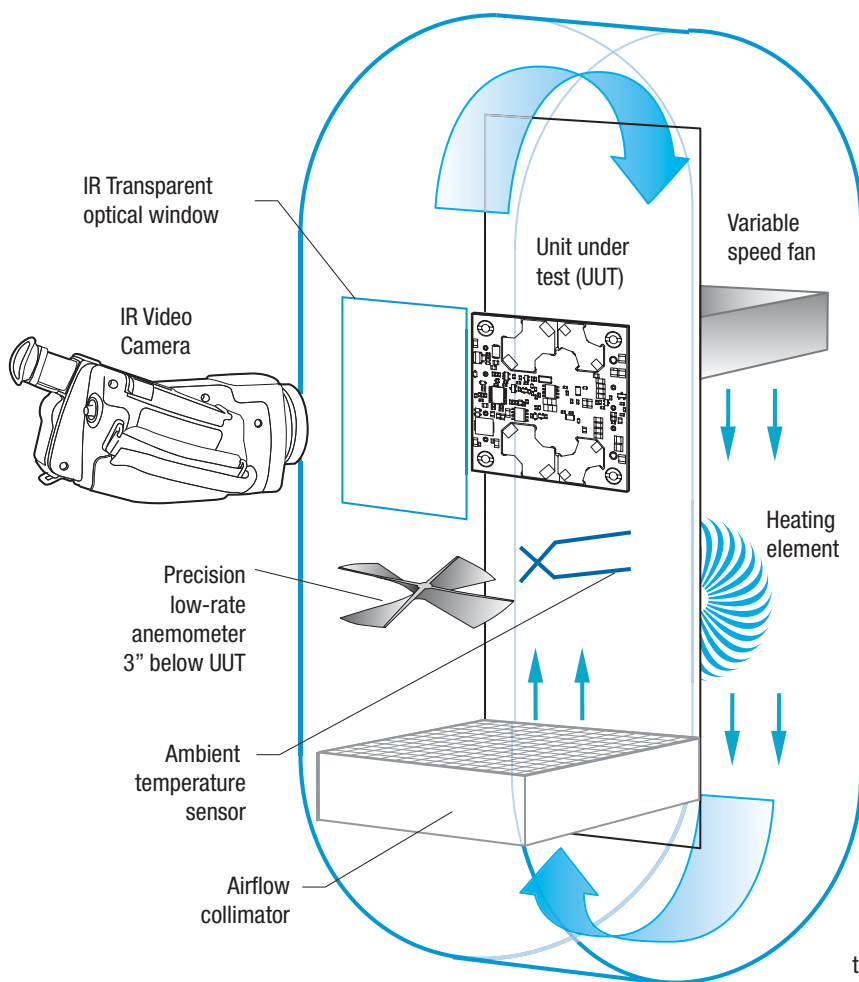

Figure 8. Vertical Wind Tunnel
**Negative**—Units are enabled when the ON/Off is open or brought to within a low voltage (see specifications) with respect to -Vin. The unit is off when the ON/Off is pulled high with respect to -Vin (see specifications). The On/Off circuitry is shown in figure 8. The On/Off pin should be pulled high with an external pull-up resistor (20K ohms). When Q1 is in the off state, the On/Off pin is pulled high, transistor Q3 is turn on and the unit is off. To turn on the unit, Q1 is turn on, pulling the On/Off pin low and turning Q3 off resulting on the unit being on.